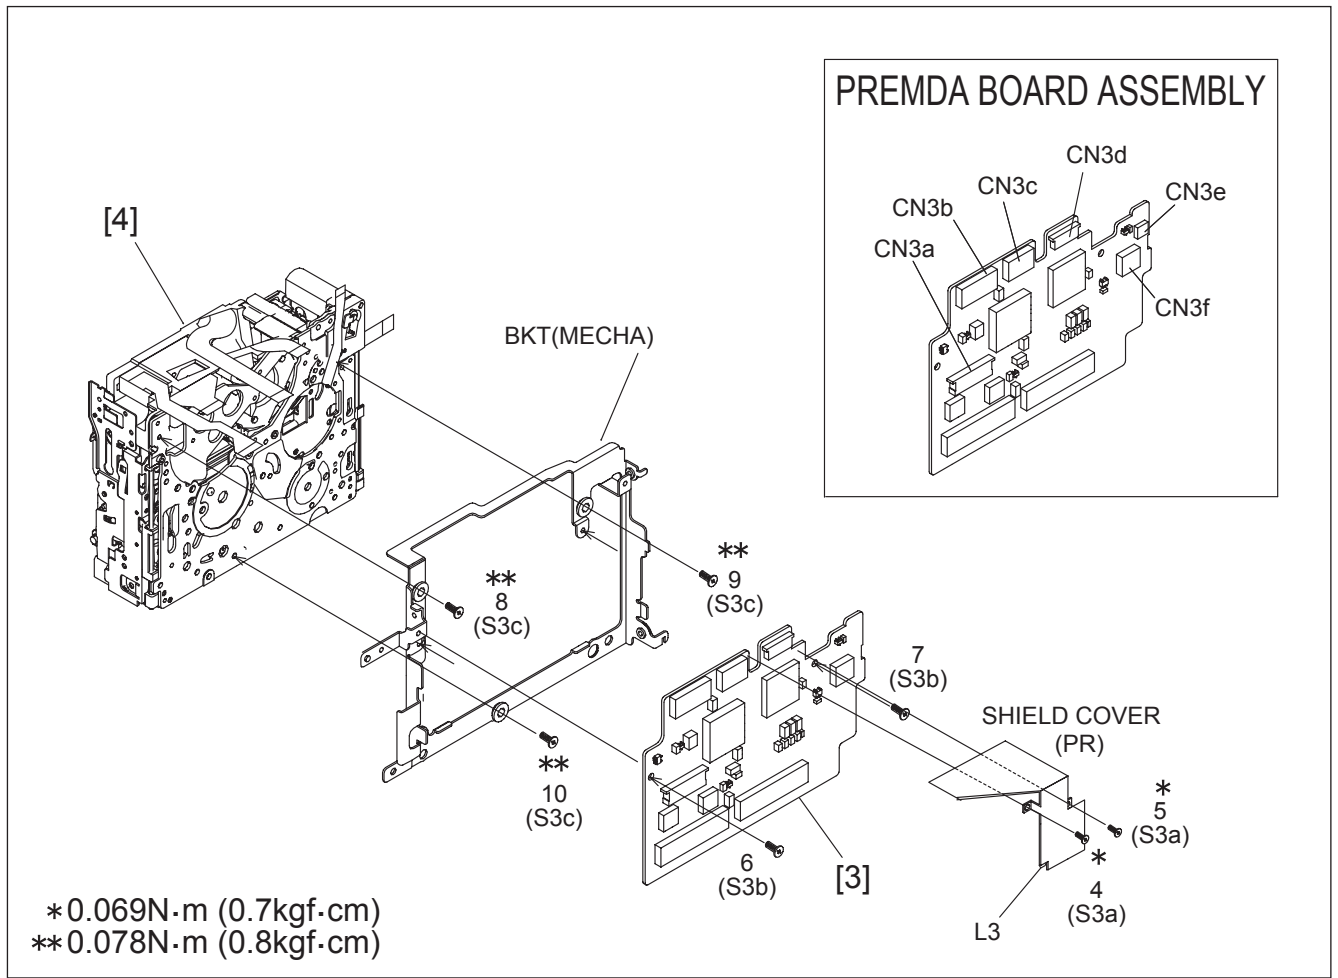

Fig.D3
| [3] | PREMDA BOARD ASSEMBLY | Fig.D3 | 2(S3a),L3,SHIELD COVER(PR) CN3a,b,c,d,e,f,2(S3b) 3(S3c),BKT(MECHA) | - |